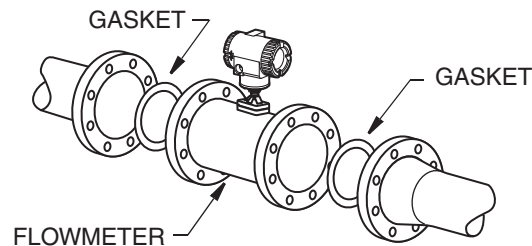

Figure 12. 84F Flowmeter Installation
2. Insert gaskets between the body of the flowmeter and adjacent flanges. See Figure 12. Position the gaskets so that the ID of each gasket is centered on the ID of the flowmeter and adjacent piping.